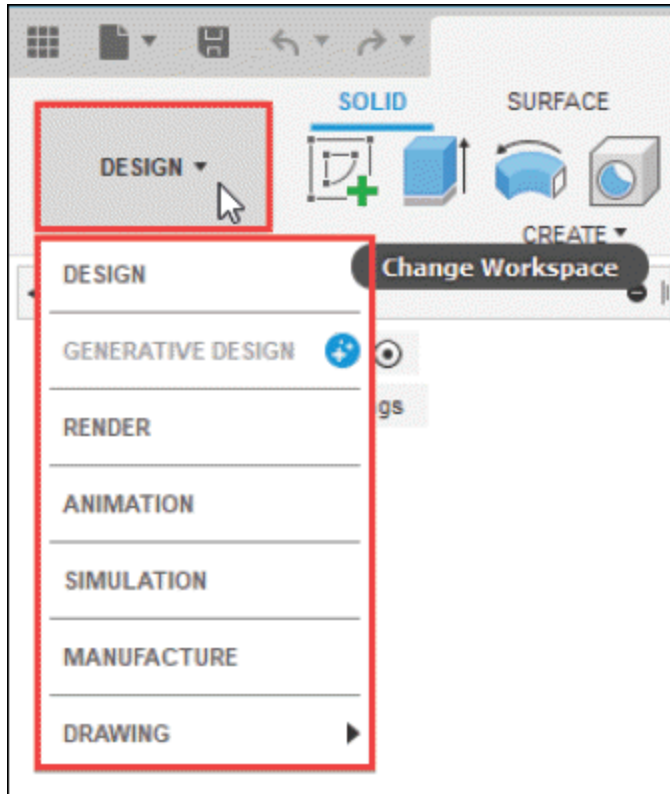

Figure-10. Workspace drop down
- Select desired workspace from the **Workspace** drop-down; refer to Figure-10.